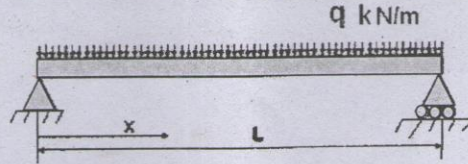

Fig.12(a)
12. (a) Determine the maximum deflection and slope in the beam, loaded as shown in Fig.12(a). Determine also the reactions at the supports.  $E = 200 \text{ GPa}$ ,  $I = 20 \times 10^{-6} \text{ m}^4$ ,  $q = 5 \text{ kN/m}$  and  $L = 1 \text{ m}$